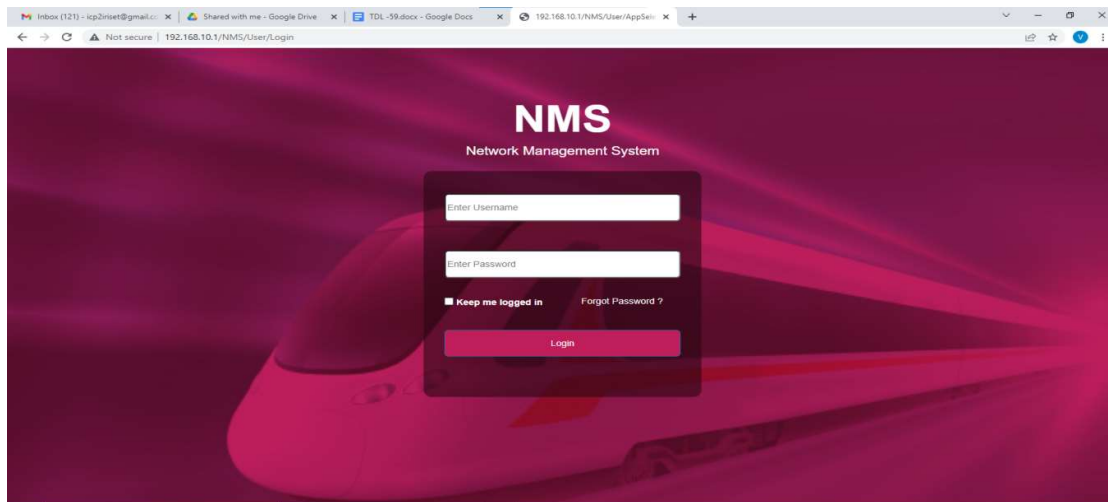

Fig.1 Login Screen
2. Enter the address in the browser as 192.168.10.1/nms for accessing the login page as shown in figure 1.